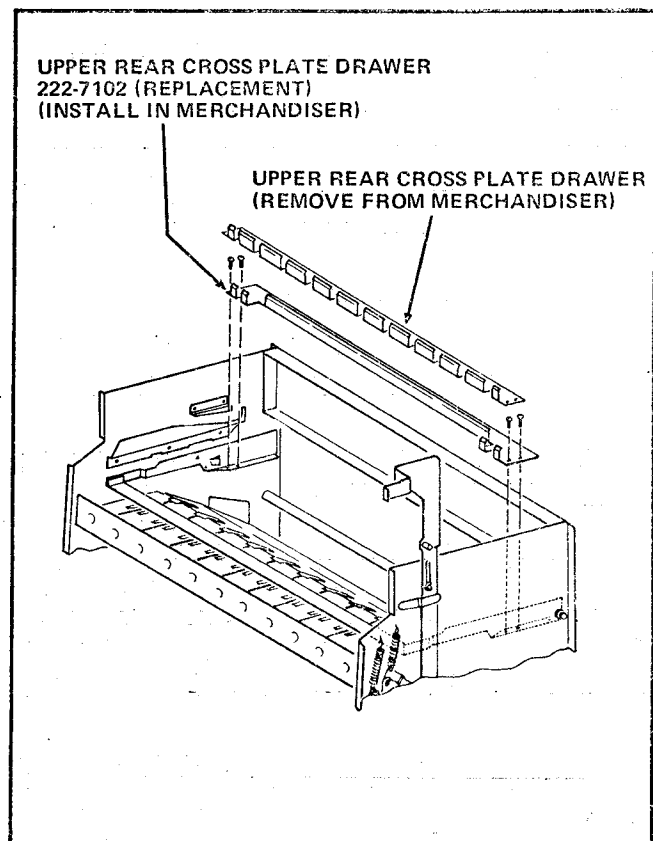

FIGURE 1
7. Remove four No.8-32 x 1/4 Round Head Self Tapping Screws and the Upper Rear Cross Plate Drawer from the Delivery Mechanism. See Figure 1.
1. Install the replacement Upper Rear Cross Plate Drawer, Part Number 222-7102, included in the Kit, in the Delivery Mechanism by attaching the Upper Rear Cross Plate Drawer to the Upper Drawer Assembly using four No.8-32 x 1/4 Round Head Self Tapping Screws removed in Step A-6. See Figure 1.